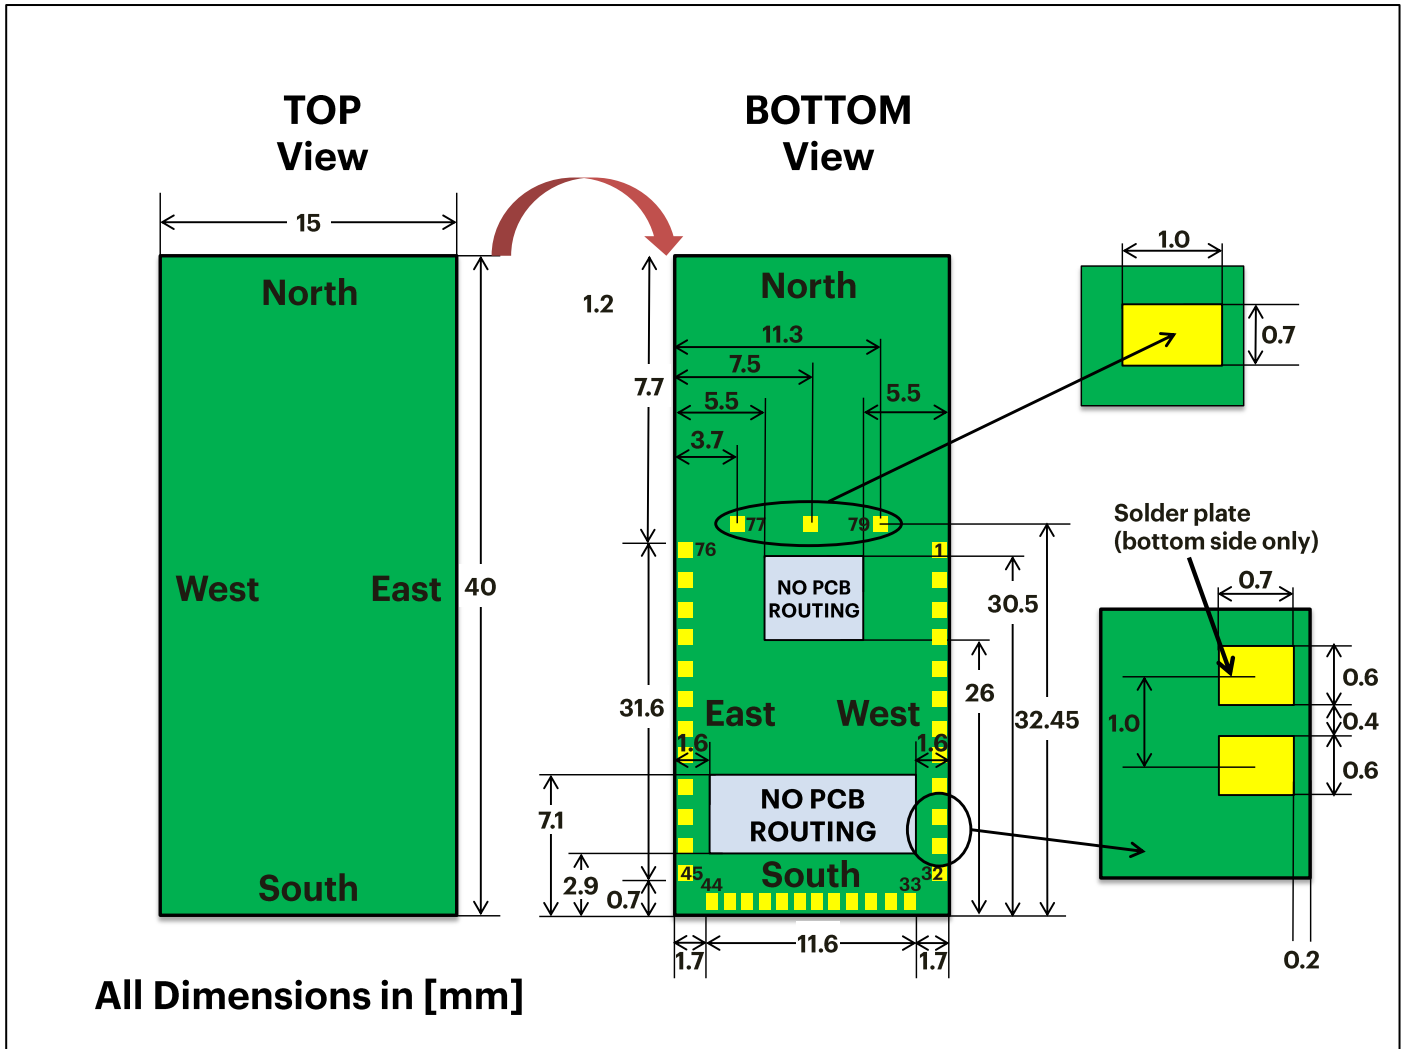

Figure 4. ARTIK 053 Module Mechanical Dimensions
Figure 4 shows the mechanical dimensions of the ARTIK 053 Module. All dimensions are in mm.
- See *Figure 4* for additional routing restrictions.